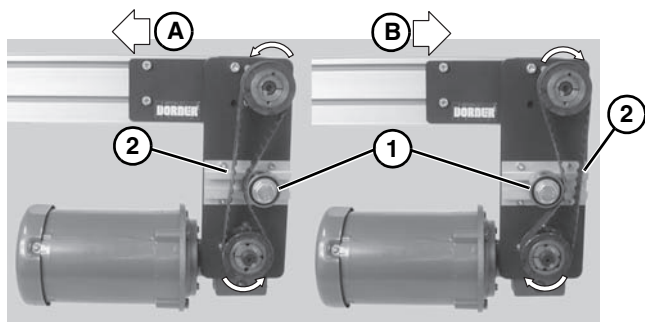

Figure 11
9. Depending on conveyor belt travel (direction A or B), locate timing belt tensioner (**Figure 11, item 1**) as shown. Tension timing belt to obtain 1/8" (3 mm) deflection for 6 lb (3 Kg) of force at timing belt mid-point (**Figure 11, item 2**). Tighten tensioner screw to 110 in-lb (12 Nm).
3. Depending on conveyor belt travel (direction A or B), locate timing belt tensioner (**Figure 11, item 1**) as shown. Tension timing belt to obtain 1/8" (3 mm) deflection for 6 lb (3 Kg) of force at timing belt midpoint (**Figure 11, item 2**). Tighten tensioner screw to 110 in-lb (12 Nm).
5. Depending on conveyor belt travel (direction A or B), locate timing belt tensioner (**Figure 11, item 1**) as shown. Tension timing belt to obtain 1/8" (3 mm) deflection for 6 lb (3 Kg) of force at timing belt midpoint (**Figure 11, item 2**). Tighten tensioner screw to 110 in-lb (12 Nm).